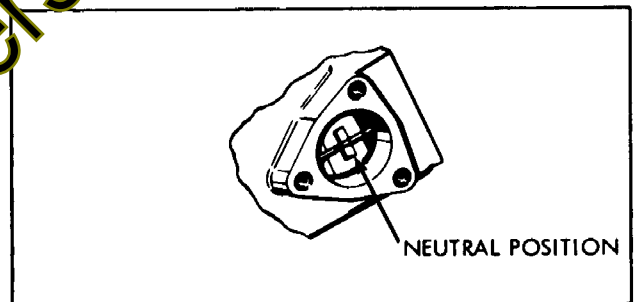

Figure 2-16
13. Inspection Note: For a neutral position, shift notches in forks and notch in shifter stop must be aligned and centrally located. (Fig. 2-16).